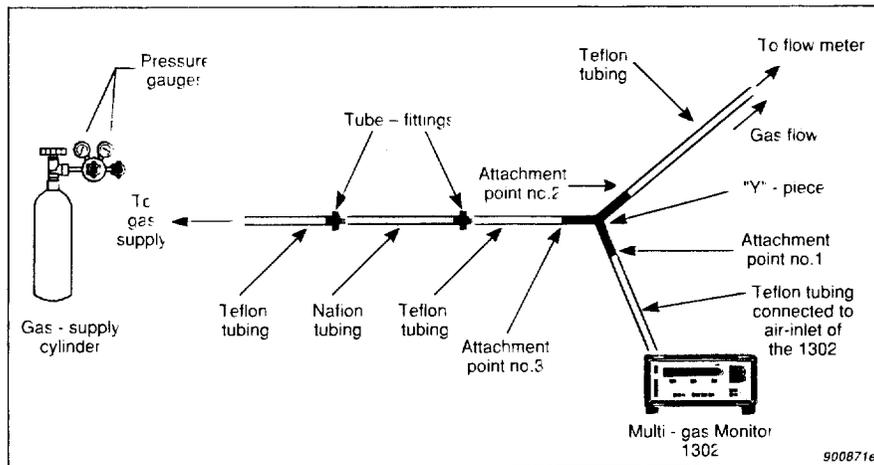

Fig. 16.16. Diagram showing how to use Nafion tubing when span calibrating a filter with one of the following gases: CO₂, CO or N₂O
A length of Nafion tubing is supplied as an accessory with the 1302. It is required during the span calibration of carbon dioxide (CO₂), carbon monoxide (CO) and dinitrogen oxide (N₂O). The Teflon tubing connected to attachment point no.3 of the "Y"-piece should be cut in half and a short length (~0,5m) of Nafion tubing should be connected between the two cut-ends of the teflon tubing using the tube fittings supplied for the purpose (Fig. 16.16.).